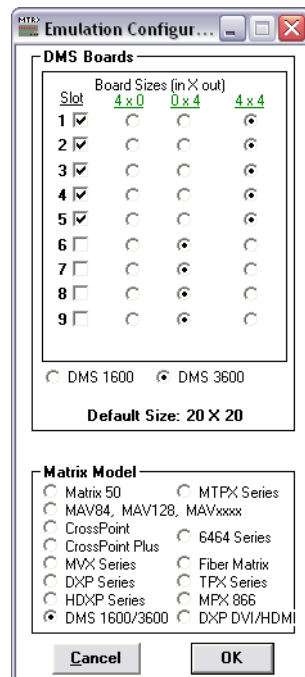

Figure 52. Emulation Mode Configuration
5. Select **DMS** as the Matrix Model (see figure 52) and either **DMS 1600/3600** or **DMS 2000/3200** as the Default Size. Check the boards that are installed; and select the type, input/output (**4x4**), input only (**4x0**), or output only (**0x4**), for each board. Click **OK**.